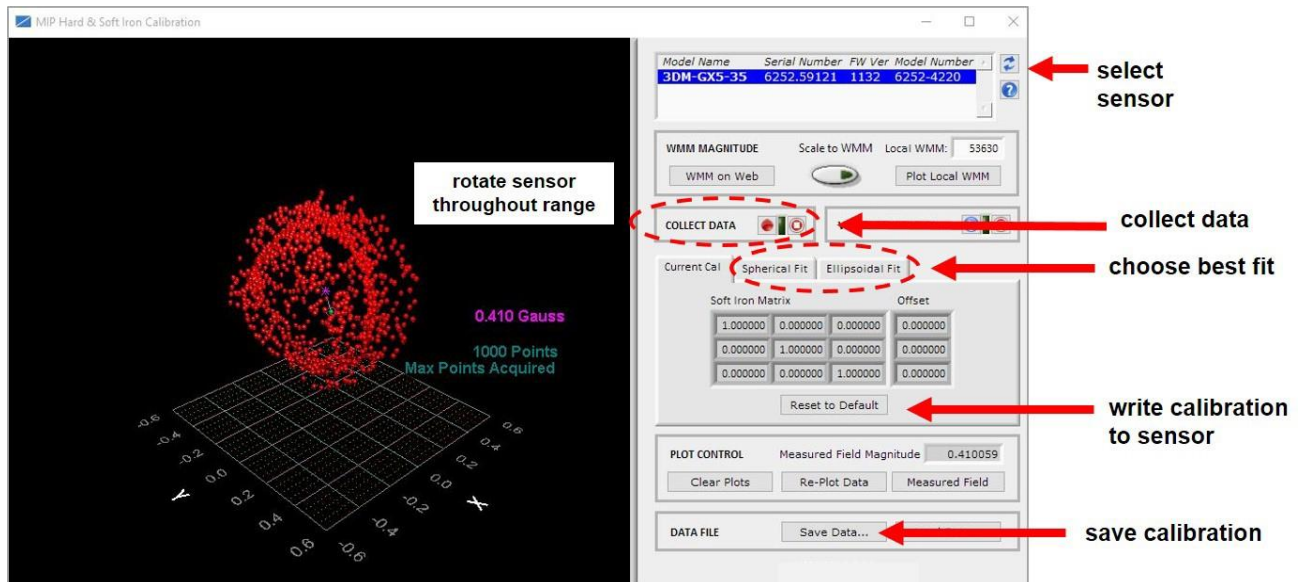

Figure 21 -Collect Calibration Data
- 6 Click the Spherical Fit or Ellipsoid Fit button, depending on the application (Figure 21 - Collect Calibration Data). Spherical Fit is often best for applications with calibration rotations restricted to a 2D plane: for example, a ground vehicle or a boat, because it will not likely not be rotated on all three axis. Ellipsoid Fit is generally a better correction when soft iron effects are present but only if enough data points can be collected in all quadrants. If the range of motion is restricted in one dimension, the Spherical Fit may be